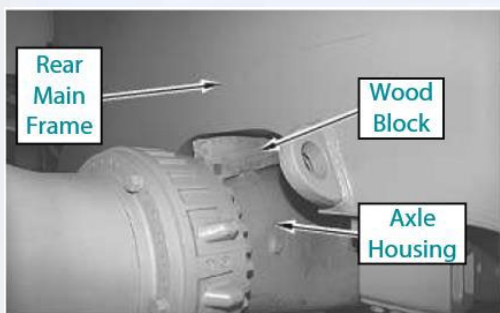

Figure 6 Oscillating prevention of axle housing.
5. Position a suitable block between axle housing and rear main frame on both sides of the machine, as shown in Figure 6. This shall prevent the rear axle housing from oscillating.